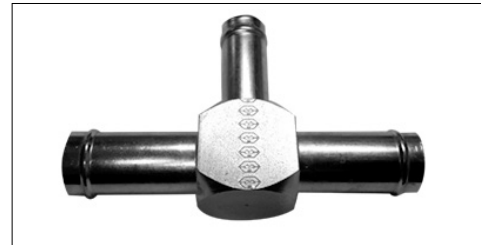

Figure 21: 3/4" x 3/4" x 5/8" tee, P/N 103430DAV
Step 1: Using heater hose pliers, clamp off both sides of the intended tee location. Cut the 3/4" ID hose. Install a 3/4" x 3/4" x 5/8" tee (Figure 21) into the cab heater return hose.